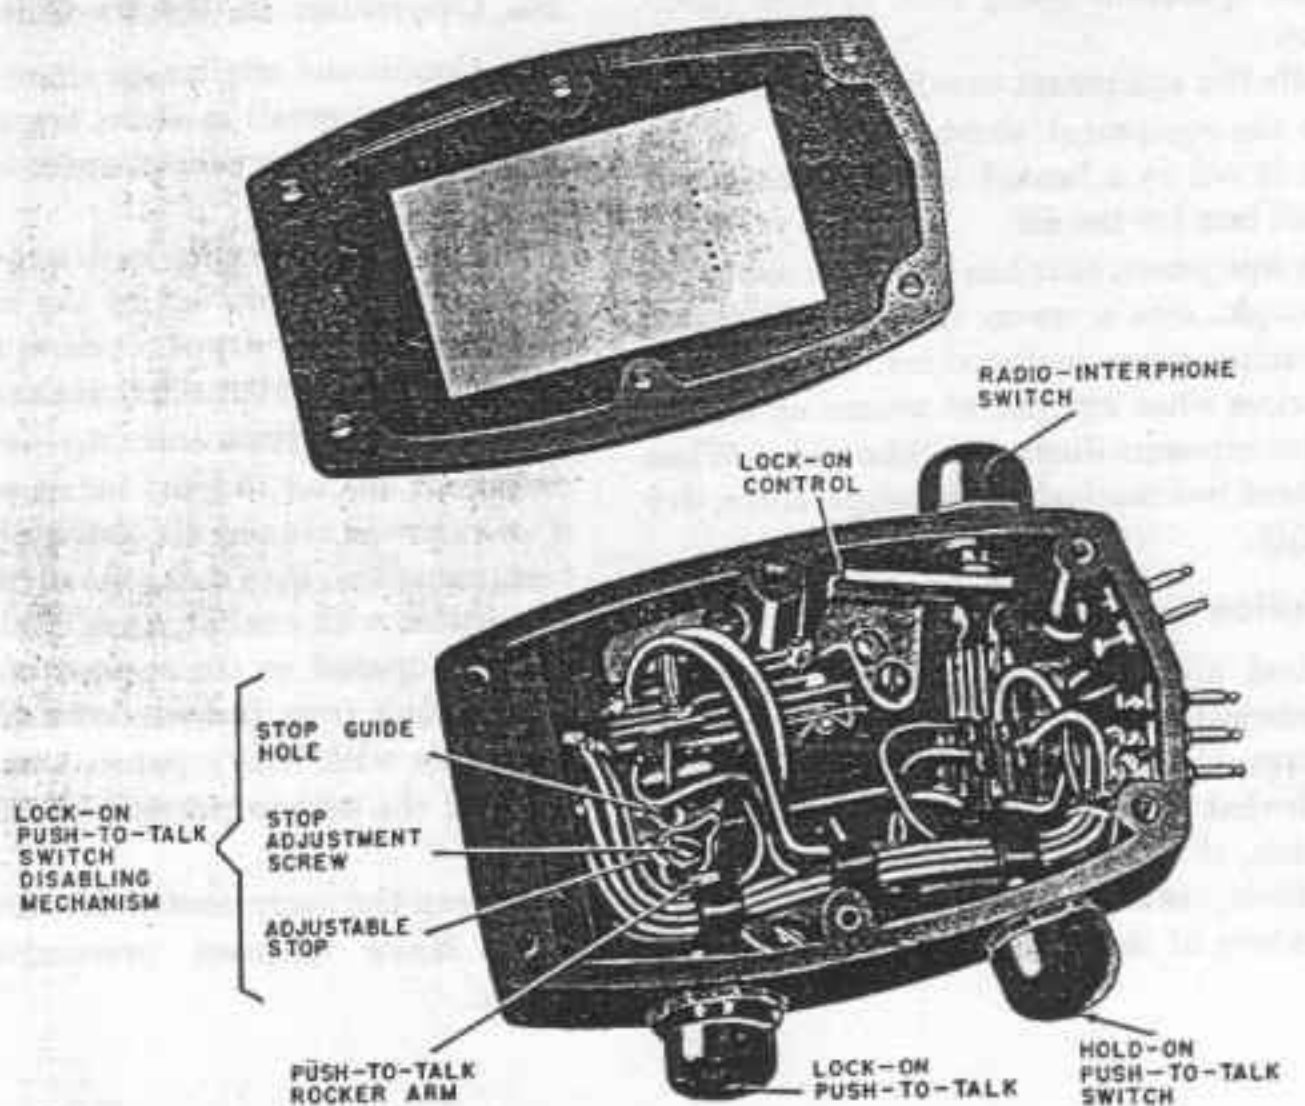

Figure 18. Switchbox SA-142/GSA-6, internal view.
provided on the switchbox will mate with the jacks on Headset-Microphone H-63/U. Two push-to-talk buttons are provided on one side of the switchbox; a push-button RADIO switch is provided on the other side of the box. The push-to-talk buttons are electrically identical, but one provides momentary contact and the other locks in position. The LOCK-ON button may be disabled by internal adjustment (fig. 18). The
RADIO switch is a momentary-type switch normally in the open position. The switch may be locked in either the RADIO or INT position by internal adjustment (fig. 18).
b. *Chest Set and Headset-Microphone Operation.* To receive and transmit with Chest Set Group AN/GSA-6 and Headset-Microphone H-63/U, the RADIO-INT switch of Switchbox SA-142/GSA-6 must be pressed and held in the RADIO position. It may be more convenient to lock the RADIO-INT switch in the RADIO position by internal adjustment (fig. 18). To transmit, press the HOLD-ON push-to-talk button. To receive, release the HOLD-ON push-to-talk button.